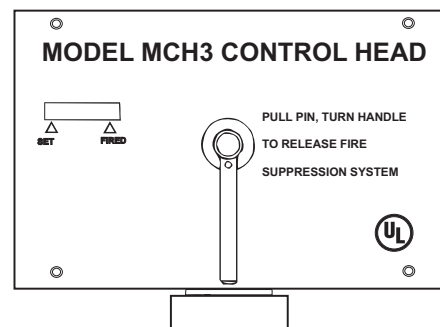

FIGURE 5
The Model MCH3 mechanical control head is a fully mechanical control head which can be connected to the A-15/25/35/50/70 tank valve. This control head will support a fusible link detection system, a remote mechanical pull station (Model RPS-M), and an electric gas shut-off valve. A micro switch (Model MS-SPDT, MS-DPDT, MS-3PDT, or MS-4PDT) can be ordered separately and field installed. It is equipped with a local manual control handle that allows for mechanical system actuation. Operation of the local manual control requires removing the pull pin and rotating the handle clockwise. The Model MCH3 control head can actuate a maximum of five (5) tanks. See Figure 5.